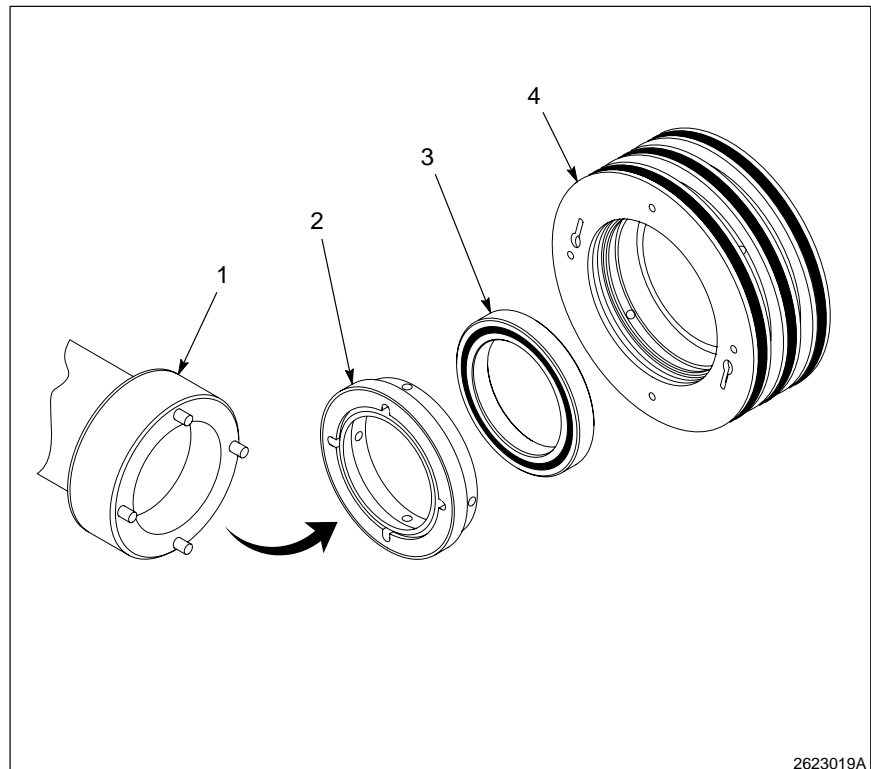

Fig. 7-8 Front Bearing Holder Disassembly
8. Remove the rear bearing (3) and rear bearing nut (4).
9. See Figure 7-8. Use the bearing nut wrench (1) to remove the front seal (2) from the front bearing holder (4).
10. Remove the front bearing (3) from the front bearing holder (4). Push from the back side using fingers. Apply equal pressure to both sides. Do not force.
3. See Figure 7-8. Install, using fingers, the front bearing (3) into the front bearing holder (4).
4. Install the front seal (2) into the bearing holder (4) using the bearing nut wrench (1). Make sure the seal points forward, facing outward from the bearing holder.